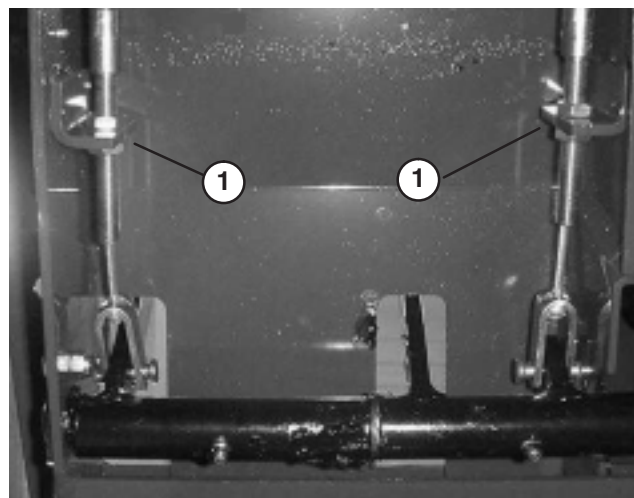

Figure 49
2. To reduce free travel of brake pedals — tighten the brakes — loosen front nut on threaded end of brake cable (Fig. 49). Then tighten rear nut to move cable backward until brake pedals have 1/2 to 1 inch (13 mm to 25 mm) of free travel. Tighten front nut after brakes are adjusted correctly.